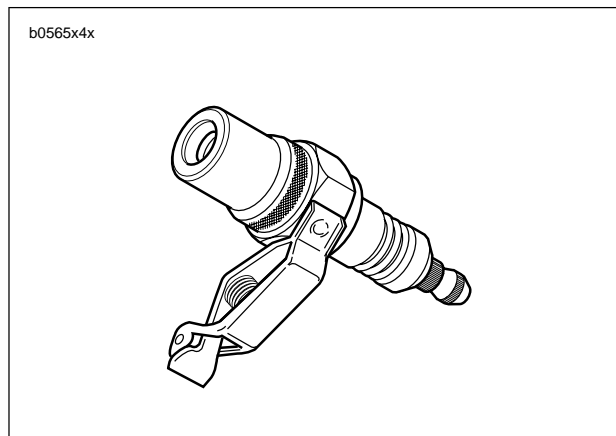

Figure 4-37. Spark Tester
1. See Figure 4-37. A SPARK TESTER (Part No. HD-26792) must be used to verify adequate secondary voltage (25,000 volts) at the spark plug.